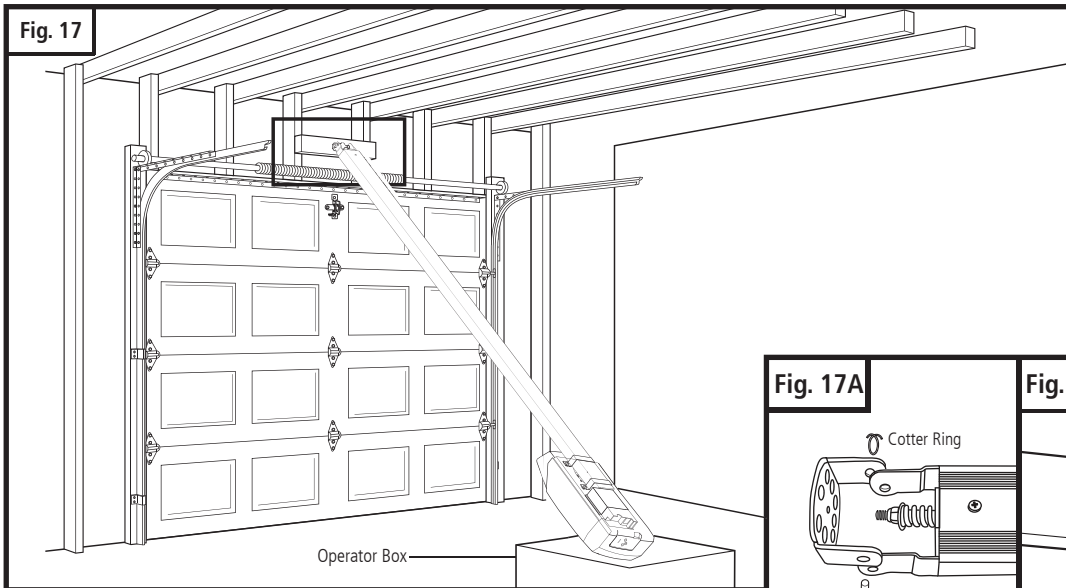

Fig. 17A
- Position rail end-stop within the openings in the header bracket. Insert header clevis pin (1/4" dia.) through header bracket and rail end, then attach cotter ring to end of pin. (See Fig. 17A)